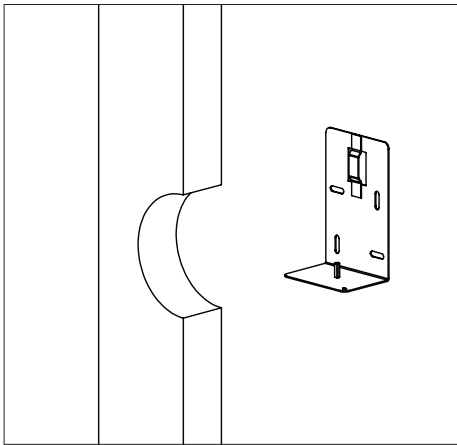

Figure 4, Mounting Flex Chimney Support
2. Fix the Flex Chimney Support (**Fig.4**) with 4 screws on the wall of the enclosure.